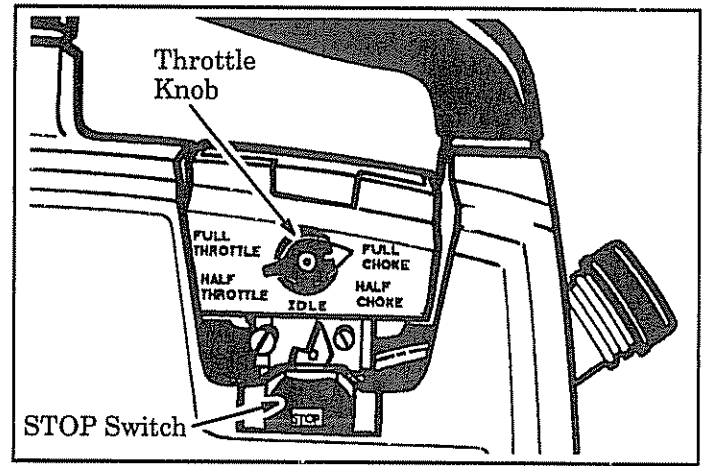

Figure 4
- b. Turn Throttle Knob to the "FULL CHOKE" position. Figure 4.
- d. Turn Throttle Knob to the "HALF CHOKE" position. Figure 4.
- g. To stop engine, turn Throttle Knob to the "IDLE" position. Then, press and hold the "STOP" switch until the engine stops. Figure 4.
- a. Turn Throttle Knob to the "HALF CHOKE" position. Figure 4.
- d. To stop engine, turn Throttle Knob to the "IDLE" position. Then, press and hold the "STOP" switch until the engine stops. Figure 4.
1. Turn Throttle Knob to the "FULL CHOKE" position. Figure 4.